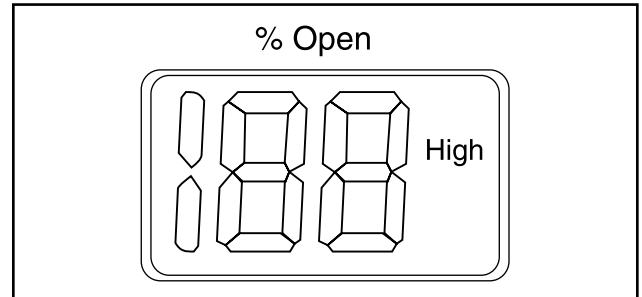

Figure 26
- **High** represents that ICAD is operating the ICM valve like an ON/OFF solenoid valve with high speed according to a digital input signal (Figure 26).